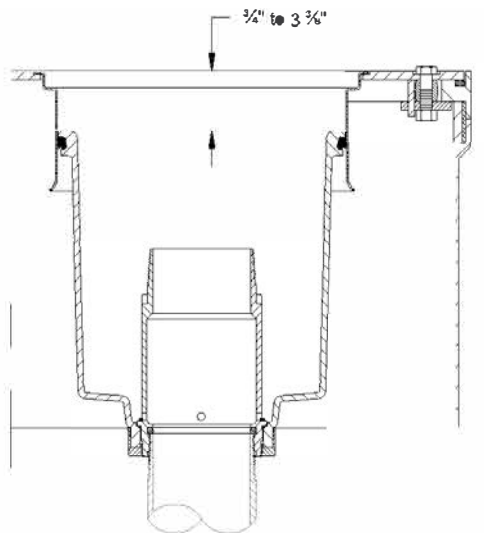

Figure 2: Measure Spill Bucket Clearance
1. Measure the top of the stainless steel sleeve to the top of the spill bucket (Figure 2)